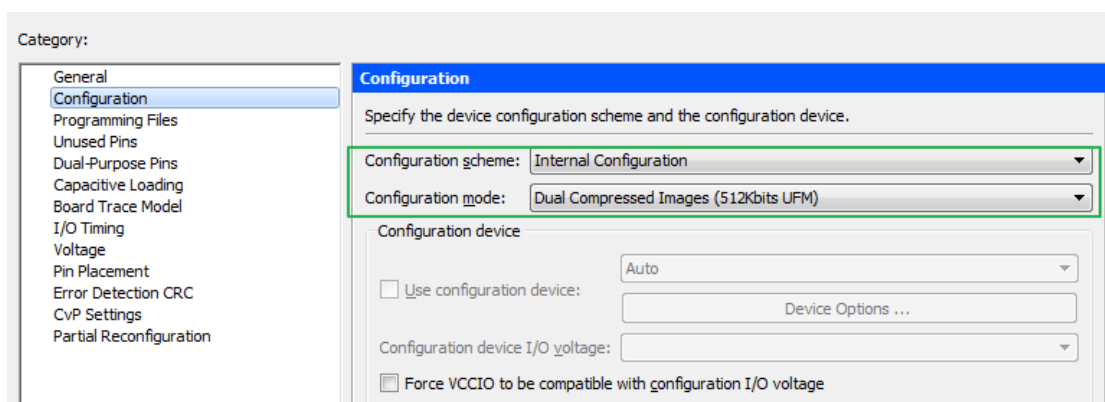

Figure 7-5 Setting Configuration Mode
- The configuration mode in Quartus device and options setting window should be set to dual compressed image mode as shown in **Figure 7-5**.